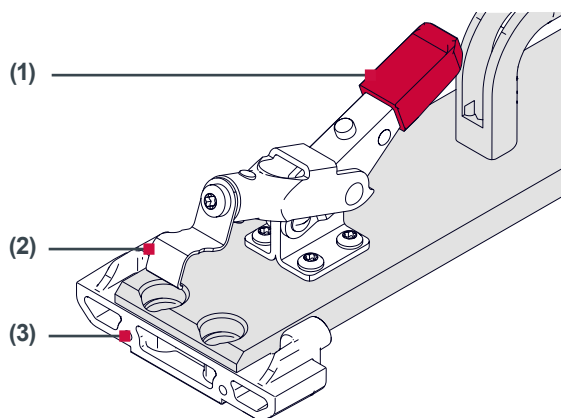

Fig. 16 Attaching the lock bracket
1. Pull the first clamping lever (1) on the assembly aid upwards to release it, and position the lock bracket (3) as shown in Figure 16.
2. Guide the retaining plate (2) over the lock bracket and close the clamping lever (1).